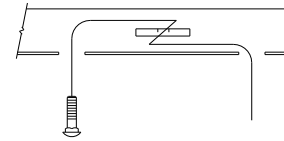

Figure 1
- Remove underbody panel** - Using a flat head screwdriver, 10 mm socket, and 12 mm socket, remove (5) rivets, (2) nuts, and (1) nut respectively from driver side underbody panel. Remove the panel.
- Lower exhaust** - Using an exhaust hanger removal tool, lower muffler by removing (2) rearmost rubber hangers. A spray of lubricant or soapy water on rubber hangers makes them slide off metal pins more easily. **NOTE: Be sure that exhaust is properly supported before removing rubber hangers.**
- Remove heat shield** - Using a 10 mm socket, remove (5) nuts from exhaust heat shield. Remove the heat shield.
- Feed forward fasteners** - Using a flat head screwdriver, remove plastic cover from access holes on both sides. Feed the carriage bolts ① and spacers ② to forward attachment holes through access holes using the pull wires ⑤, see Figures 1 & 2. Leave pull wires attached.